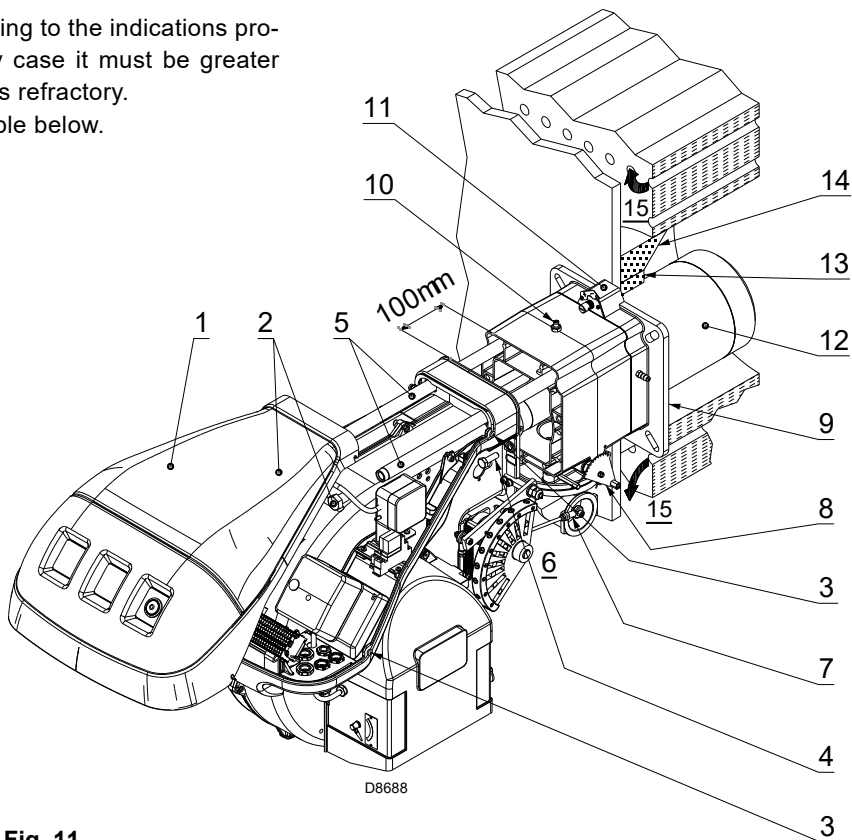

Fig. 11
For boilers with front flue passes 15) or flame inversion chamber, a protection in refractory material 13) must be inserted between the boiler fetling 14) and the blast tube 12). This protection must not compromise the extraction of the blast tube. See Fig. 11. For boilers with a water-cooled frontal, a refractory lining 13)-14) is not necessary unless expressly requested by the boiler manufacturer.
Separate the combustion head from the rest of the burner, Fig. 11.
Once this operation has been carried out, fix the flange 11)(Fig. 11) to the boiler plate, interposing the insulating gasket 9)(Fig. 11) supplied.
- reassemble the burner on the guides 3) at about 100 mm from the pipe coupling 4) - burner in the position shown in Fig. 11;